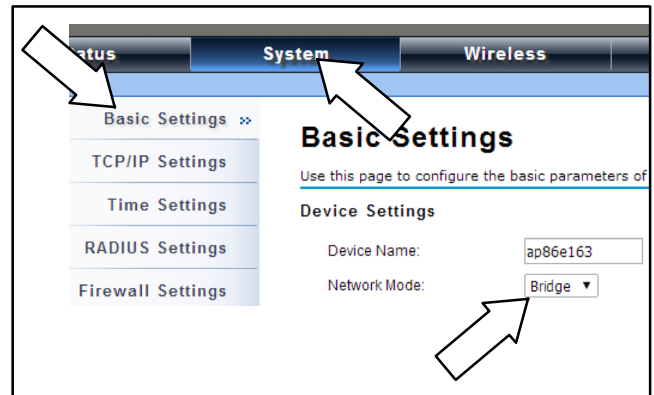

Figure 13 System Basic Settings
- 9.1 Click the System tab. See Figure 13.